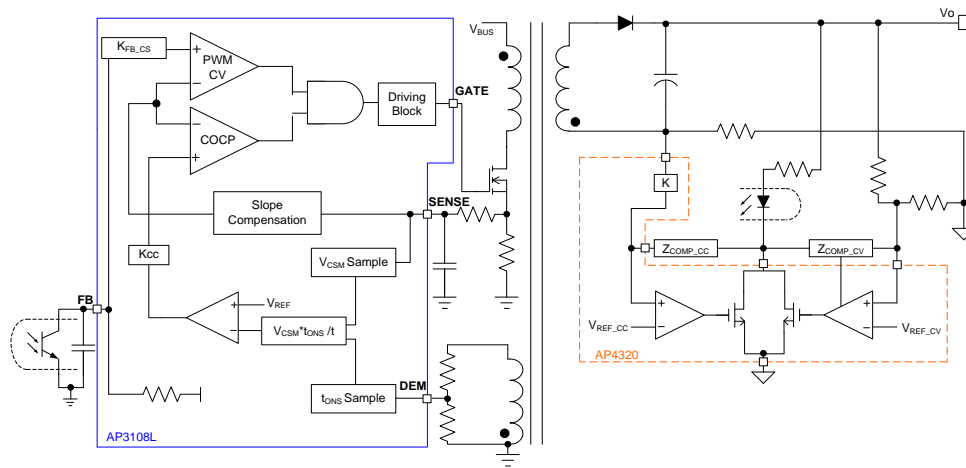

Figure 1
Figure 1 describes how the AP3108L and AP4320 work together to achieve constant voltage (CV), constant current (CC) and primary constant OCP (COCP) control. At secondary side, the sensed output voltage or output current signals are compared with the corresponding reference  $V_{REF\_CV}$  and  $V_{REF\_CC}$  in AP4320. The inner CV and CC amplifier combine with an external compensation network to generate an amplified error signal and transfer to the primary side FB pin through the opto-coupler. It's noted that only one amplifier works at one moment between CV and CC amplifier. The scaled FB voltage comparing with the SENSE voltage after slope compensation will turn off primary switch and determine the duty cycle.